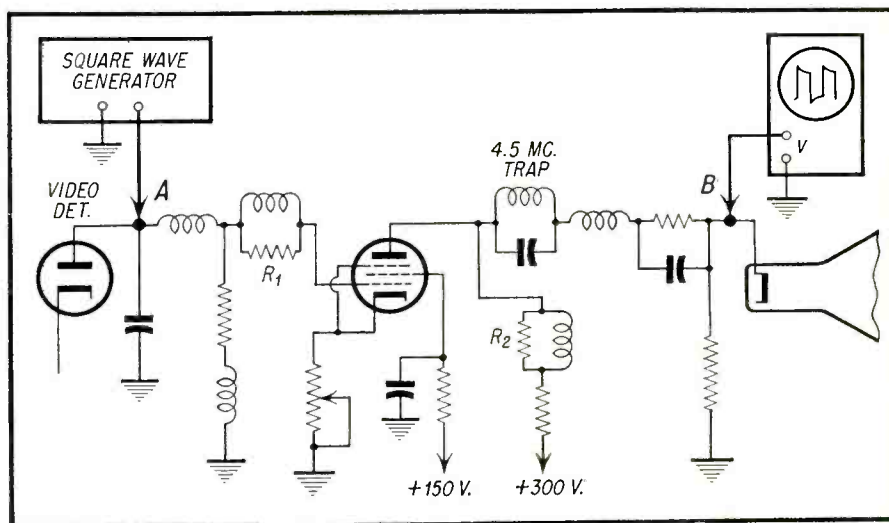

Fig. 1—Typical video amplifier circuit.
**I**N the preceding installment, (April 1955), it was shown that a square wave generator can be useful in localizing trouble to the video amplifier area of the TV receiver. In this connection it was pointed out that before an intelligent diagnosis can be made, the serviceman must know what waveforms to expect when the amplifier is operating normally. A block diagram of the bench setup was given previously Fig. 1 shows a schematic of a typical video amplifier and indicates the manner in which the square wave generator and the scope are connected. Here are a few suggestions which may prove helpful:
6. If the scope amplifier introduces too much distortion of its own, connect point "B" of Fig. 1 directly to one of the vertical deflection plates of the scope. The other vertical plate should be grounded. Terminals for this purpose are usually provided at the rear of the scope. You can tell whether the scope amplifier is introducing objectionable distortion by feeding the square wave output of the generator directly into the vertical terminals of the scope, and observing the waveform. A fairly good square wave indicates little distortion by the scope amplifier.